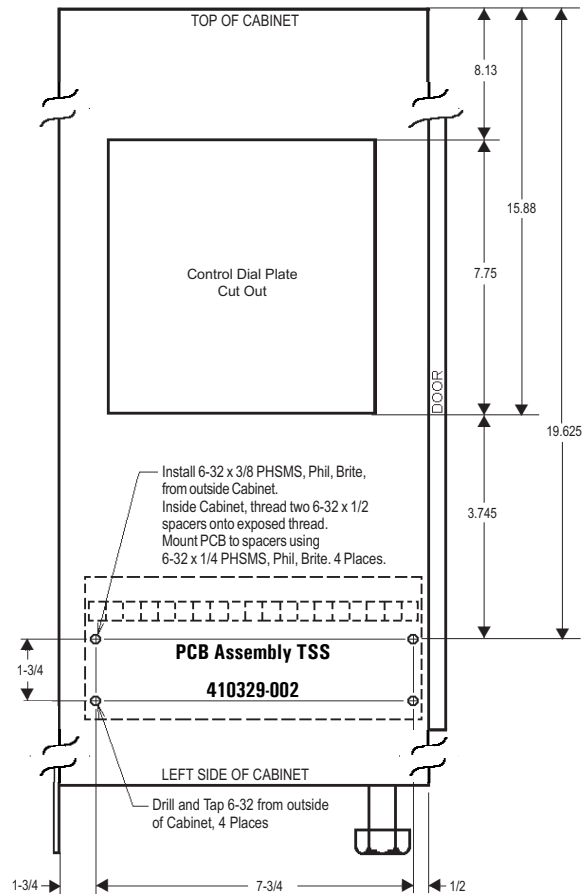

Figure 7. Mounting detail for “L”, “H”, “G” or “U” Cabinet with VE
4. Mount External Terminal Strip Skip PCB (A/N 410329-002) to spacers installed in step 3 using four (4) screws. See Figure 7.